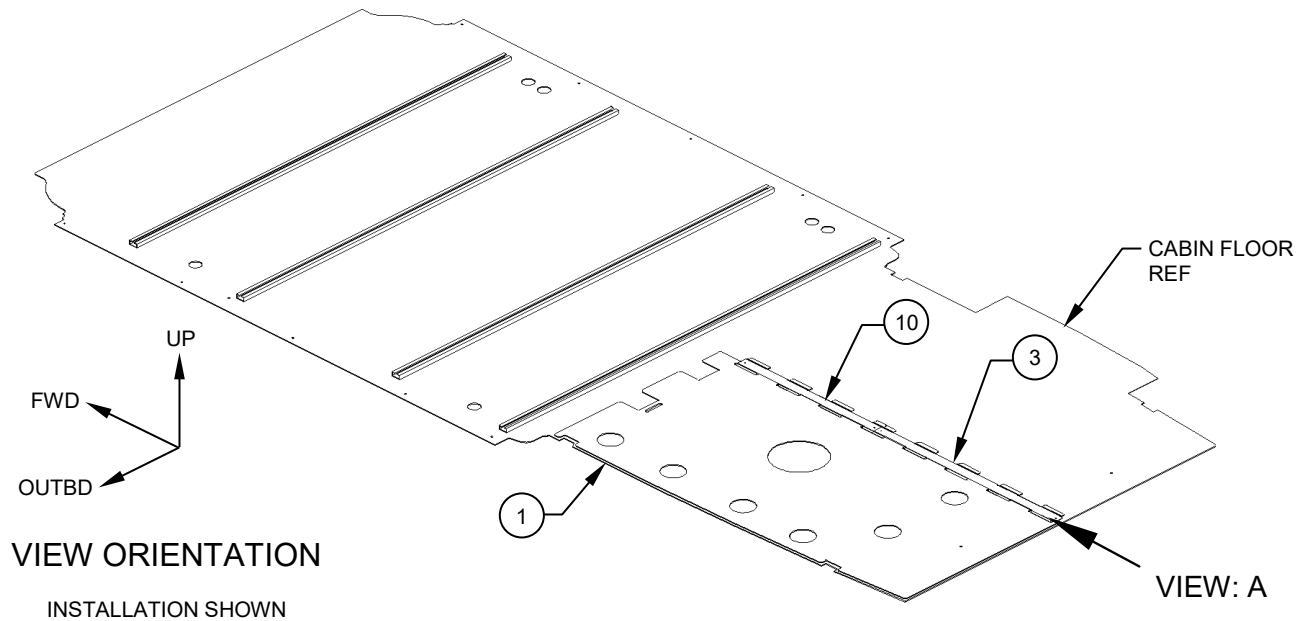

Figure 10
3. Position the LHS Panel Assy (Item 1) on the floor in its approximate position with the Velcro strips facing down as shown. Reference Figure 10.
4. Install the Retainer Strip, Assys (Item 3 & 10) by inserting the tabs into the provided slots in the panel as shown. Reference Figures 10 & 11.
5. Install the RHS Panel, Assy (Item 2) by tipping the panel on an angle and inserting the Retainer Strip, Assy (Item 3 and 10) tabs into the provided slots in the panel as shown. Install cargo door sill (Item 4) using OEM hardware. Reference Figures 10, 11 & 12.